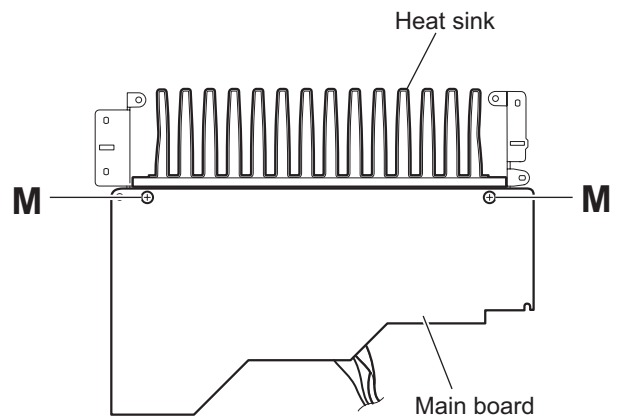

Fig.11
- (2) From the reverse side of the main board, remove the two screws **M** attaching the heat sink. (See Fig.11)